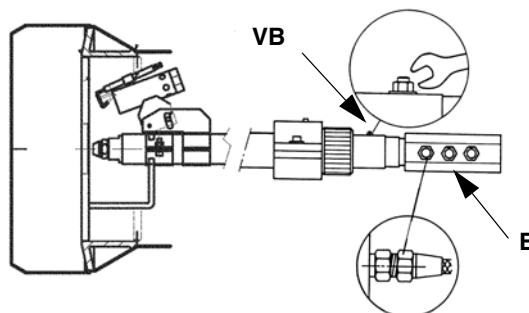

Fig. 20
- unscrew the revolving connectors (E in Fig. 20) on the fuel pipes (use 2 spanners to avoid loosening the connections attached to the distributor block);